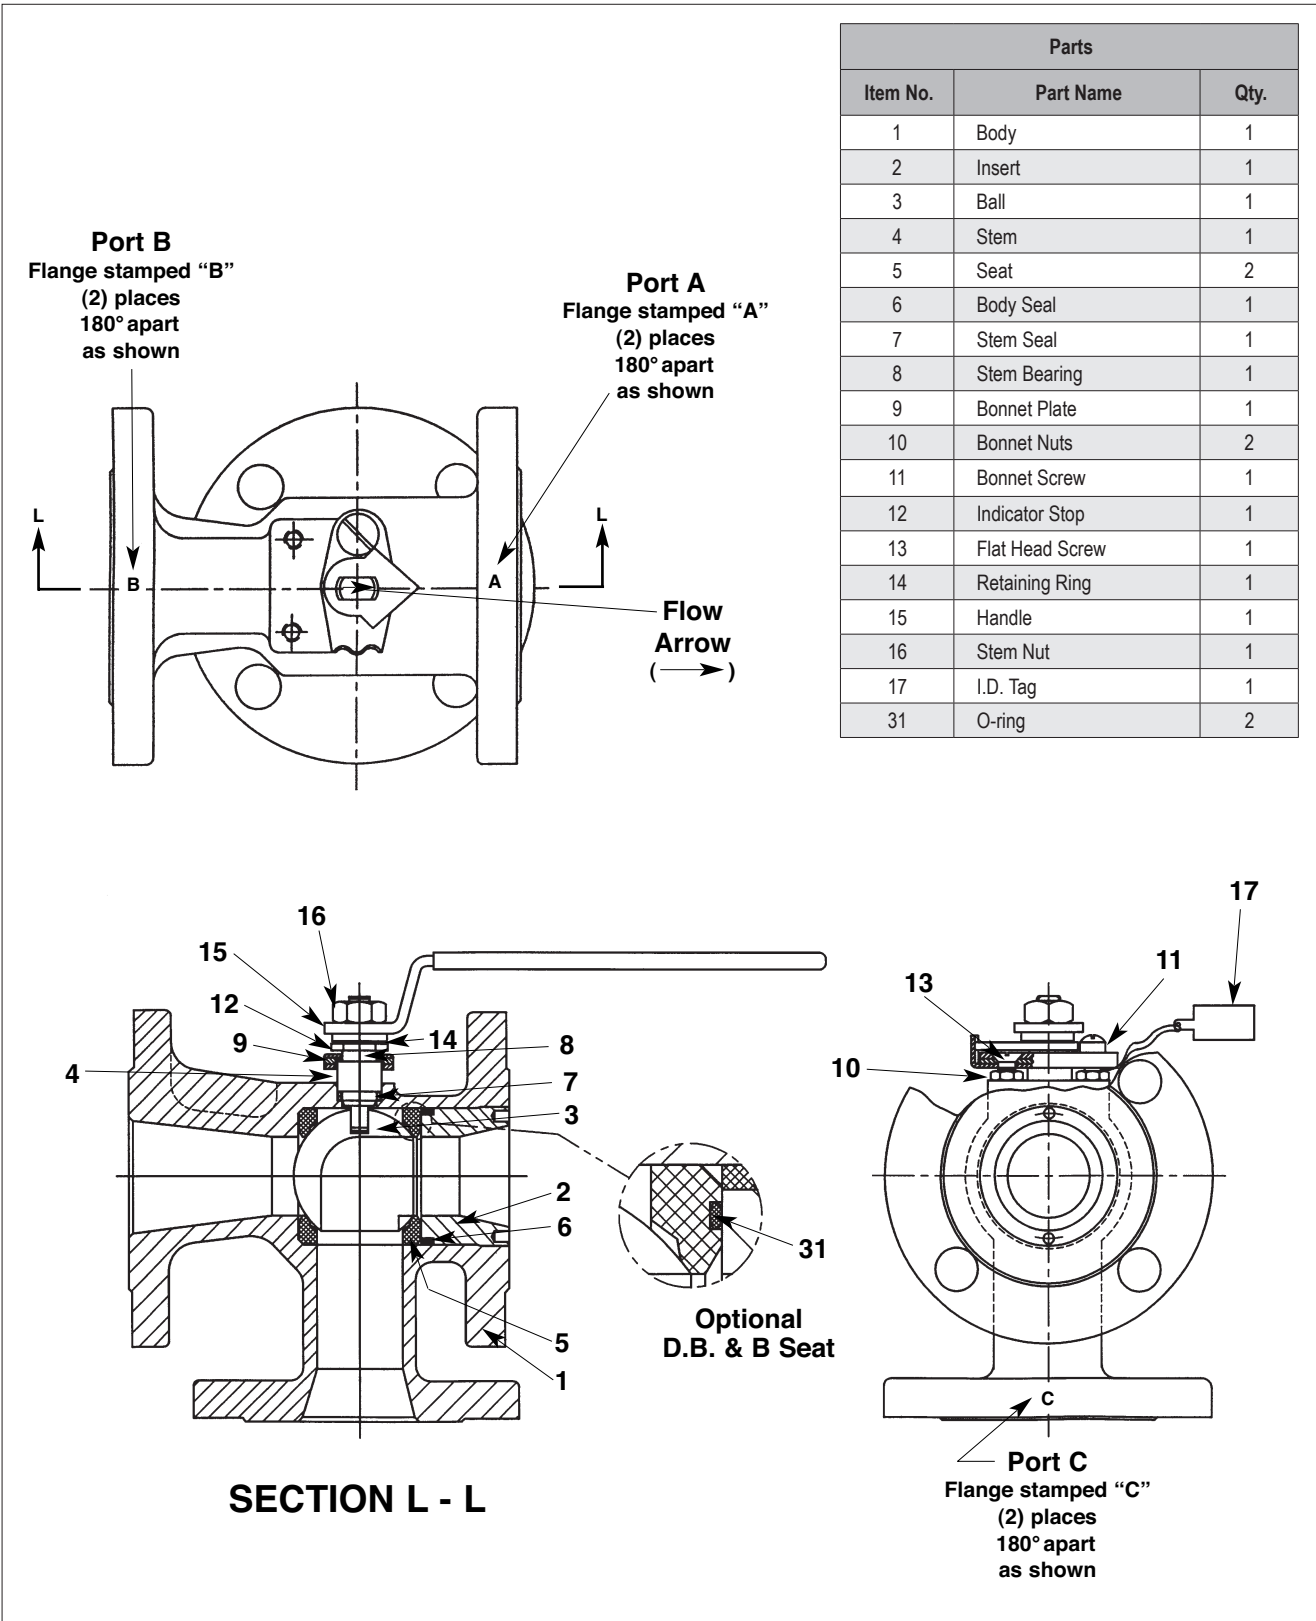

Figure 6.
The top of the stem contains a flow arrow. From step 2, the ball was left with the ball ports "A" and "B" closed. Assemble the stem so that with port "A" on your right the arrow is pointing towards you, parallel to the "A" and "B" flange on the body. This indicates that the valve ball is closed to ports "A" and "B" and open to the "C" port, (See **Figure 6**).
Place the machine screw (13) through the bonnet plate hole nearest the bent up portion of the plate and then put the remaining screw (11) in the other hole. Screw the bonnet nuts (10) onto the bonnet screws, 2/3 of the screws' length. Replace the *Valmet* tag around screw (11). With the body's "A" port on your right, place the machine screw (13) into the bottom bonnet hole and remaining screw (11) in the top hole, (See **Figure 6**). Tighten the bonnet plate down with the screws until the screw heads make contact with the plate, then tighten another ¼ turn. Tighten the bonnet nuts (10) until they contact the bonnet face. Place the indicator stop (12) over the stem with the pointed part set into the bonnet plate slot.
12. Attach the handle (15) and secure it with the stem nut (16).